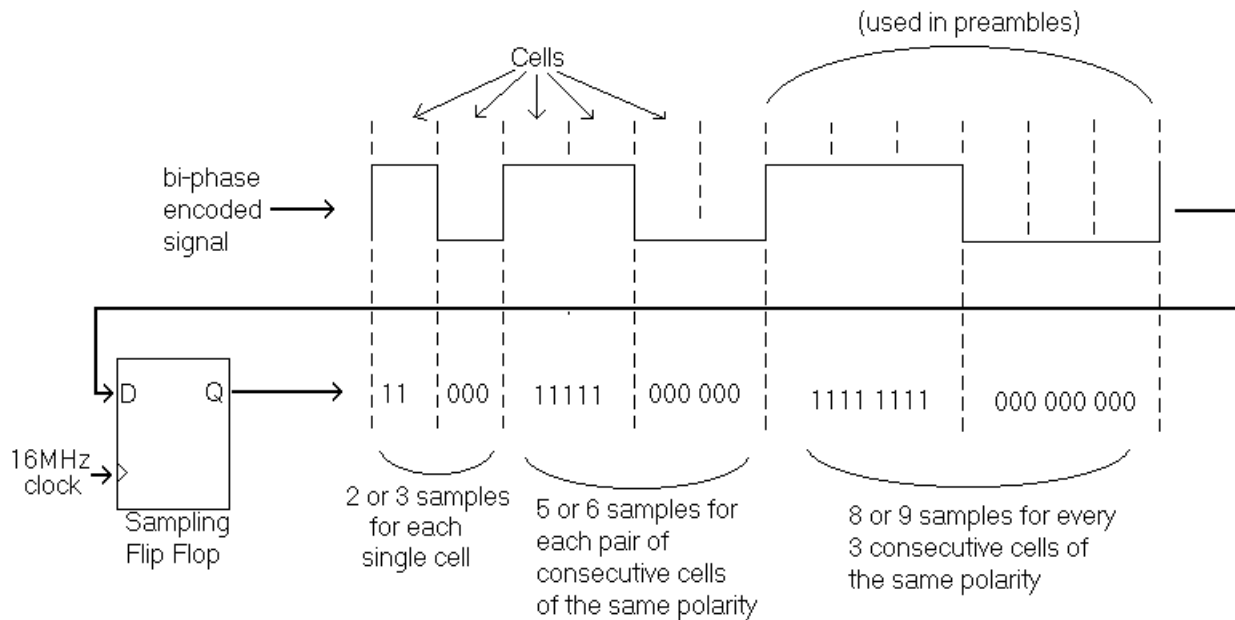

Figure 8
Figure 8 shows what happens when the bi-phase encoded signal is sampled using a flip flop. Because the periods of the cell and clock are not multiples of each other, 62.5ns verses 180ns, identical cell configurations will yield different data when sampled.
Lets examine Figure 8:
- A single cell can have 2 or 3 samples. (See the left part of the signal in Figure 8)
- Each pair of consecutive cells of the same polarity, as shown in the middle of fig. 8, can yield 5 or 6 samples. Remember that this denotes a data 0 and is also found in preambles.